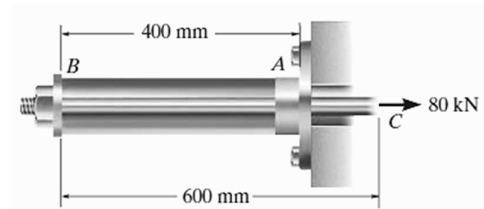

Fig. 4
4. The assembly shown in Fig. 4 consists of an aluminum tube  $AB$  having a cross-sectional area of  $400 \text{ mm}^2$ . A steel rod having a diameter of 10 mm is attached to a rigid collar and passes through the tube. If a tensile load of 80 kN is applied to the rod, determine the displacement of the end  $C$  of the rod. Take  $E_{st} = 200$  GPa,  $E_{al} = 70$  GPa. [4.2mm]